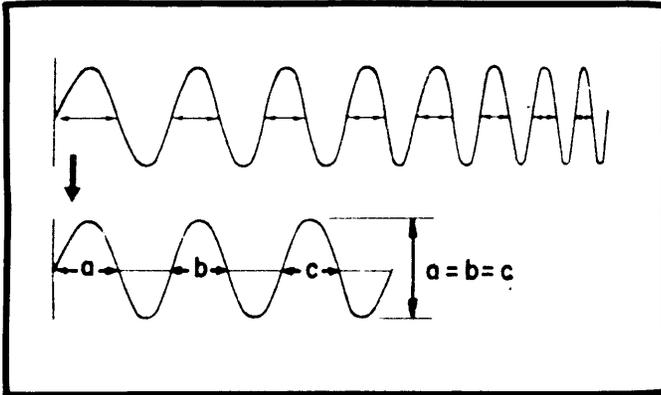

Fig. 24. Linearity Adjustment.
1. Select 20 μ s/div sweep time and 5X MAG. Apply 250 kHz sine wave at 6 divisions amplitude. Adjust TC3 for best linearity i.e., so each cycle has equal spacing (Fig. 24).
2. Set sweep time to 0.2 μ s and apply 25 MHz sine wave at 2 divisions amplitude. Pull 5X MAG switch out and use horizontal POSITION control to start wave at left edge of scale. Adjust TC4 for best linearity (Fig. 24).